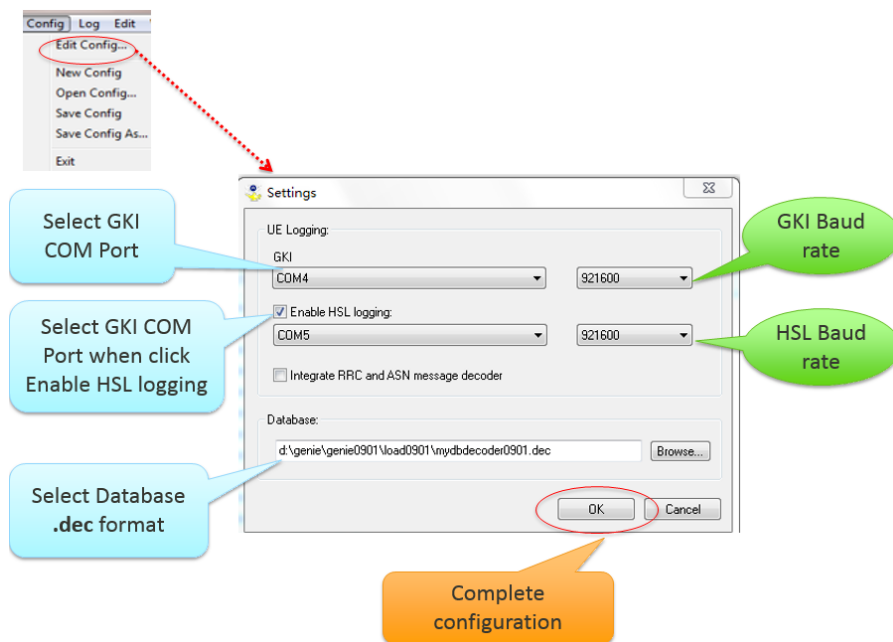

Figure 5. Genie configuration
- 2) The Edit Configuration dialog box allows the user to configure the parameters for a Genie test. Dialog can be accessed by selecting the Edit Configuration option. Click on a tab below to view one of the GKI, Enable HSL logging, Baud Rate, Integrate RRC and ASN message decoder and Database. See Figure 5.